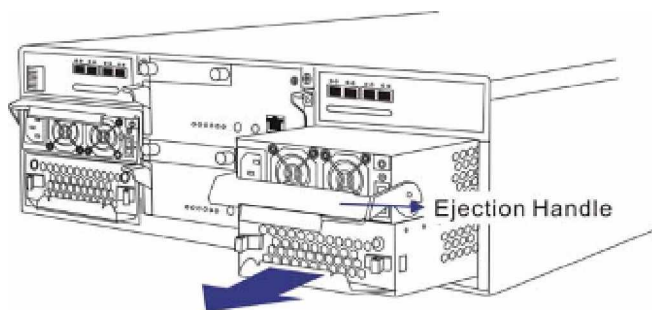

Figure 5-24: Dislodging the PSU
**Step 5.** Use the handle to *gently pull the PSU module out of the enclosure*. (See *Figure 5-24*)